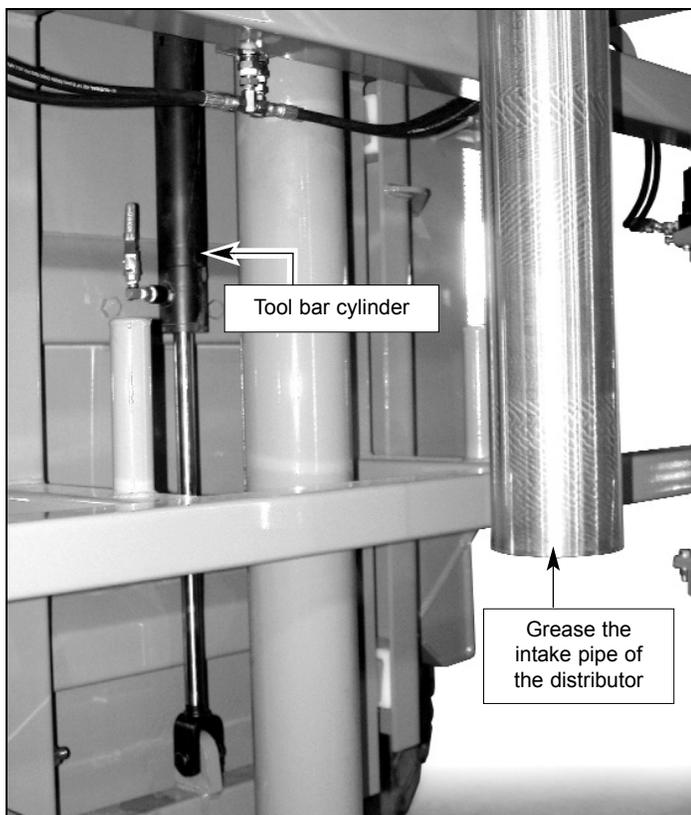
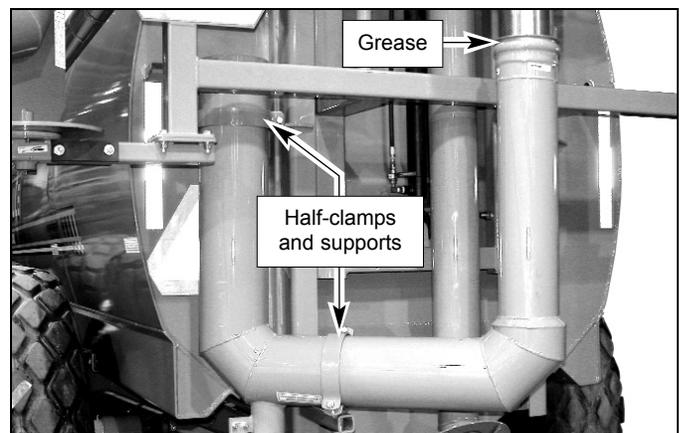

Fig. 17
Fig. 18
- 3.2. Grease the intake pipe of the distributor and the adaptor of the U-pipe - *fig. 17 and 18*. Install the U-pipe. Do not tighten the pipe supports and the half-clamps - *fig. 18*.
- 3.4. Install the hydraulic cylinder and connect it to a pair of 1/4" hoses - *fig. 17*. Connect this pair of hoses to the hydraulic outlet of the tractor. Remove the winch.